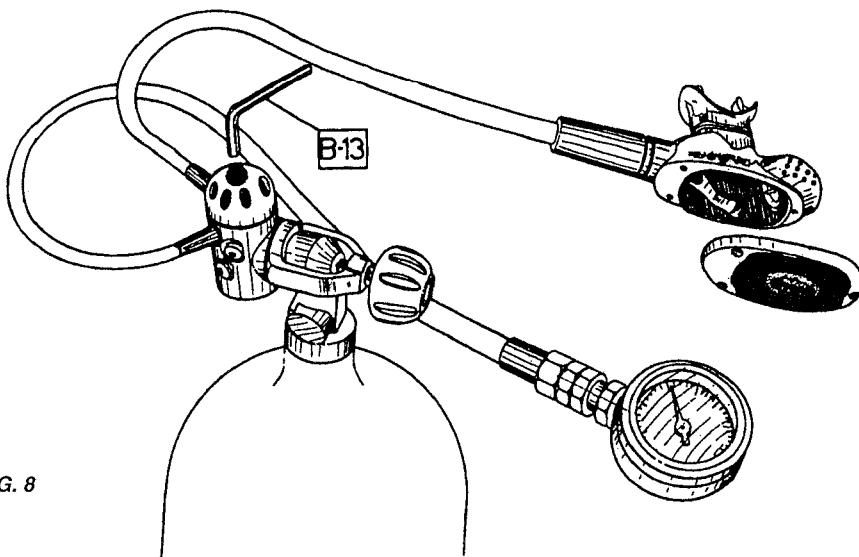

FIG. 8
FIRST STAGE (D 12) VIPER INTERMEDIATE PRESSURE ADJUSTMENT (Fig. 8).
5. Read the value of the first stage adjustment on the pressure gauge, and proceed as follows (Fig. 8):
- a) If the first stage adjustment is **higher** than the required value (see table), use the wrench (B-13) to slowly back off the adjusting nut (16) until the specified value is obtained.